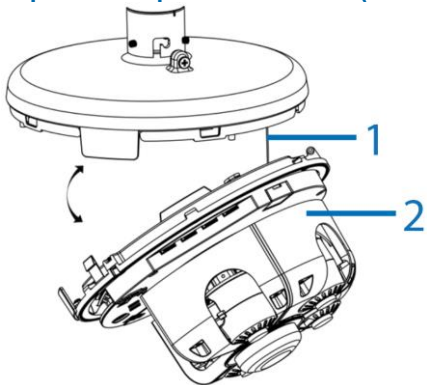
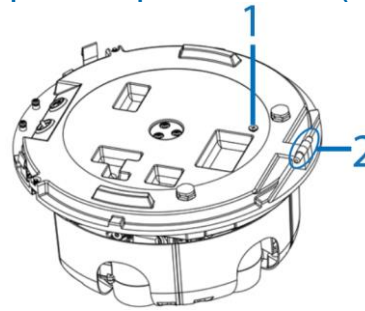

Figure 11
Figure 12
20. Hold the camera lens module (2) (Figure 11) up to the adaptor plate and insert the 'loop' on the camera's safety lanyard (1) (Figure 11) that is attached to the mounting plate to the screw (1) (Figure 12) on the camera lens module.
21. Insert the 'hinge pins' (2) (Figure 12) on the camera module lens into the 'hinge knuckle' on the adaptor plate.